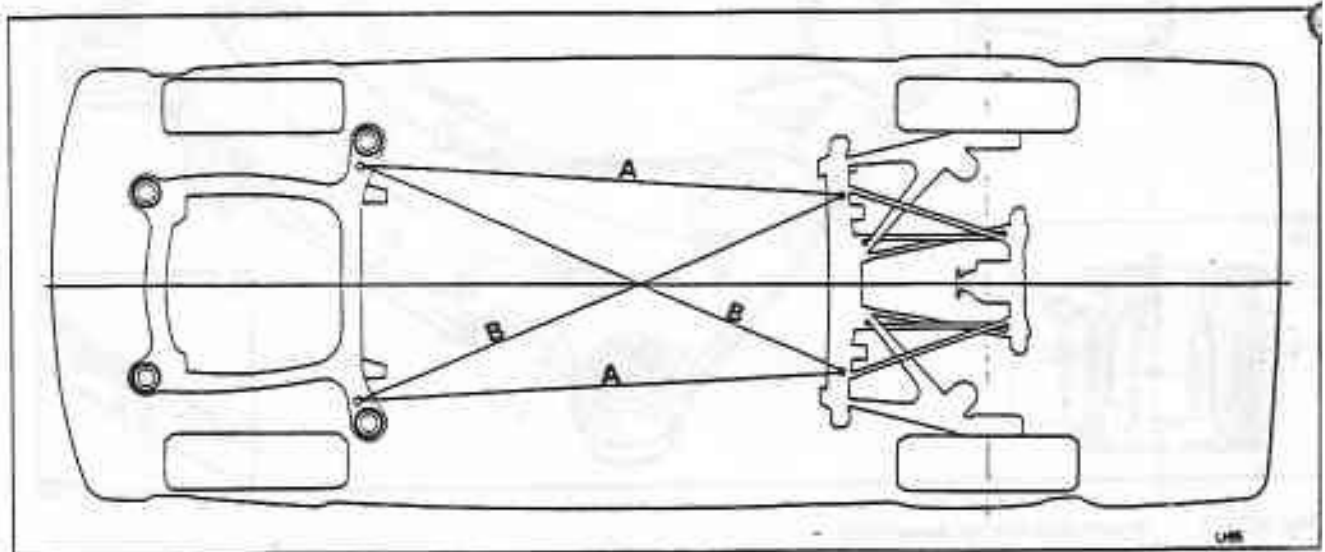

Fig. H2-15 Sub-frame alignment
4. Remove the steady bar (if fitted) from the front of the engine (see fig. H2-15).
6. Centralize the sub-frame by utilizing the movement in the body mounting bobbins. To check the sub-frame position, diagonal and parallel measurements should be taken from the jig location points on the rear sub-frame to the jig location points on the front sub-frame (see fig. H2-15). With the sub-frame centralized torque tighten the sub-frame mounting bolts and setscrews.